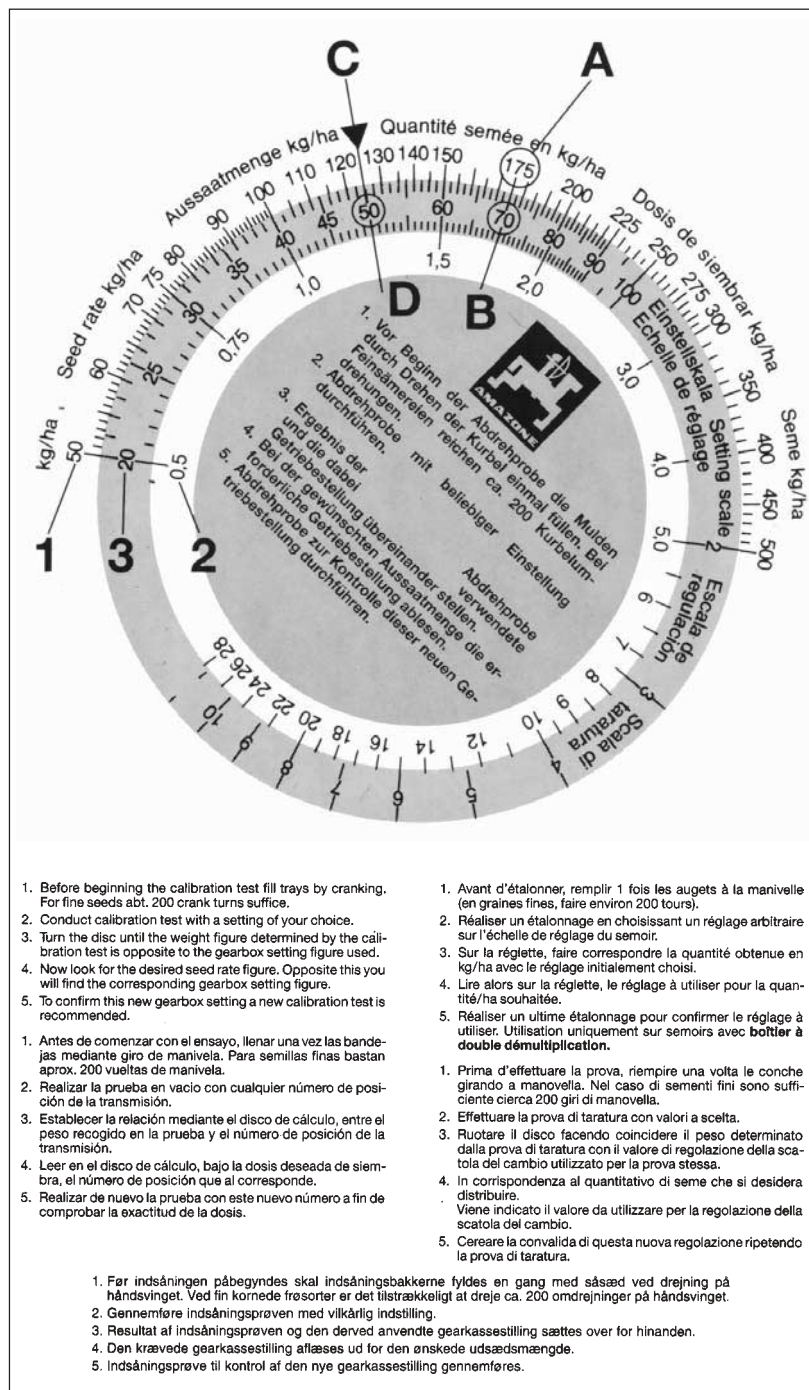

Fig. 21.12
Usually one does not achieve the desired seed rate with the **first** gearbox setting. With the aid of the seed rate calculation disc rule (Fig. 21.12) it is possible to determine the gearbox setting figure with the **first** gearbox setting figure and the calculated seed rate.
The disc rule consists of three scales: One outer white scale (Fig. 21.12/1) for all seed rates above 30 kg/ha and an inner white scale (Fig. 21.12/2) for all seed rates below 30 kg/ha. On the central, coloured scale (Fig. 21.12/3) gearbox settings from "1 to 100" are printed.
- Align the seed rate 175 kg/ha (Fig. 21.12/A) and the gearbox setting figure "70" (Fig. 21.12/B) on the disc rule.
- Now read off the disc rule the gearbox setting figure for the desired seed rate of 125 kg/ha (Fig. 21.12/C). In our example that is the gearbox setting figure "50" (Fig. 21.12/D).